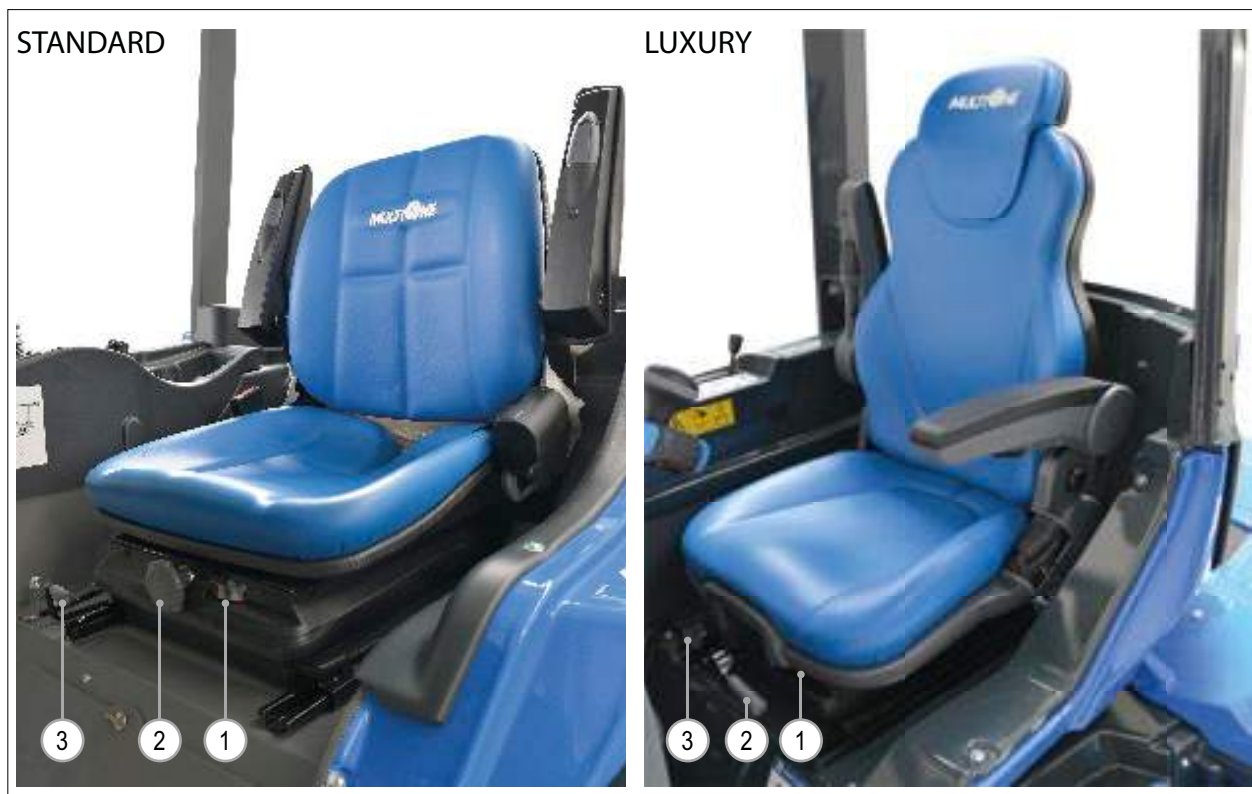

FIG. 19
- 2) Pull and hold the lever pulled (**FIG. 19 - Ref. 3**) placed under the seat on the right side.
- 2) Turn the knob (**FIG. 19 - Ref. 2**), placed in the center under the seat, until the indicator (**FIG. 19 - Ref. 1**) is placed into the green zone.